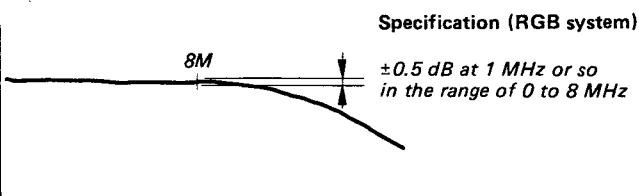

Fig. 5-55.
10. Connect the probe to TP2 (R) on the C board, and adjust CV7 on the Q board so that the output waveform is flat in the range of 0 to 8 MHz. (See Fig. 5-55.)
11. Connect the probe to TP3 (G) on the C board, and adjust CV9 on the Q board so that the output waveform is flat in the range of 0 to 8 MHz. (See Fig. 5-55.)
12. Connect the probe to TP4 (B) on the C board, and adjust CV11 on the Q board so that the output waveform is flat in the range of 0 to 8 MHz. (See Fig. 5-55.)